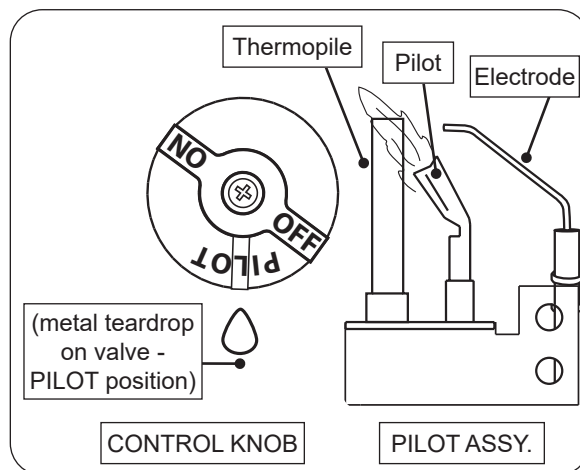

Fig. 23-1 Pilot lighting
3. Locate the pilot assembly on the side or rear of the burner pan (see Fig. 23-1).
4. Turn the control knob counterclockwise ↻ to **PILOT**. Push the knob **firmly and fully** in and hold. Push the piezo igniter button several times until the pilot lights. Continue to hold the knob in for about one (1) minute after the pilot is lit. Release the knob and it will pop back out. The pilot will remain lit. See Fig. 23-1. If it goes out, repeat steps 2-4.